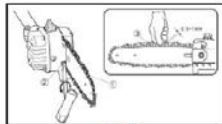

Fig. 17
3. Install the side case (2) onto the guide bar clamp bolt and fix the clamp nut (3) temporarily. Fig. 17
4. Raise the bar end, and tighten the chain (1) by turning the tension adjustment screw (2) clockwise. To check proper tension, lightly lift up the center of chain and there should be about 0.5~1.0mm gap between bar and edge of drive link (3). Fig. 17 & 18.